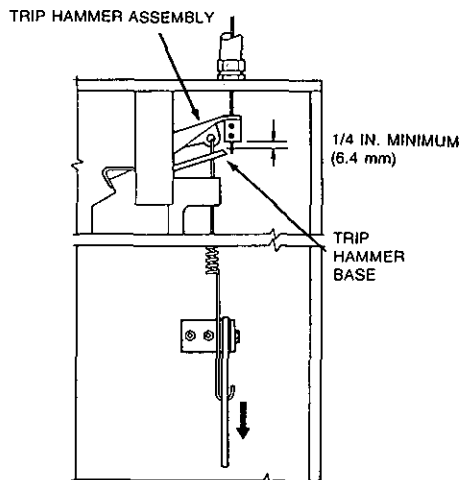

FIGURE 31
20. Lower tension lever to "DOWN" position and inspect the base of the wire rope clamping device to make certain that there is a minimum of 1/4 in. (6.4 mm) clearance between the base of the trip-hammer assembly and the cable lever assembly. See Figure 31. (If clearance is not 1/4 in. (6.4 mm) minimum, raise tension lever, loosen set screws on locking clamp and repeat Steps 19 and 20.)